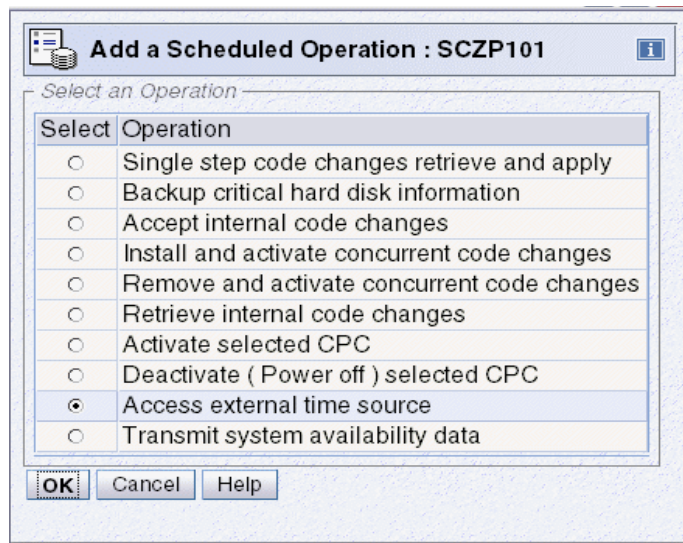

Figure 1-63 Add a Scheduled Operation
1. Select the server as the target object, then select **Operational Customization** → **Customize Scheduled Operations** → **Options** → **New**, which opens the Add a Scheduled Operation task (Figure 1-63).